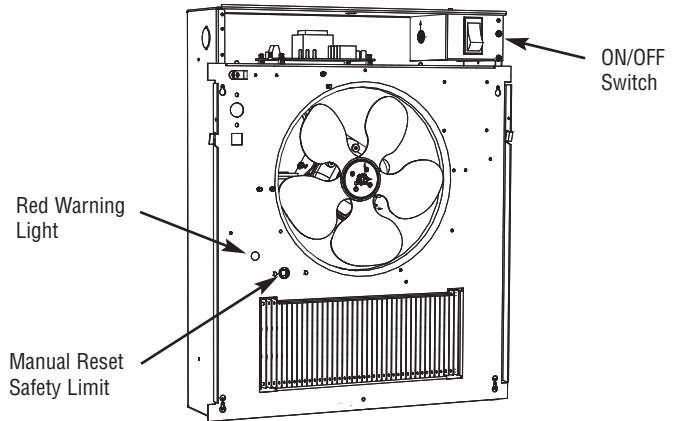

Figure 8 Reset Button Location
This heater is equipped with a manual-reset safety limit control that will automatically turn off the heater if it overheats to prevent a fire. A red warning light will illuminate (visible through the grille) to alert that this control has activated. See Figure 8 for the location of these devices.
### TO RESET SAFETY LIMIT (SEE FIGURE 8)
**NOTE:** With grille removed, the ON/OFF switch located in upper right corner of heater may be used to turn off power to heater during cleaning and servicing (see Figure 8).